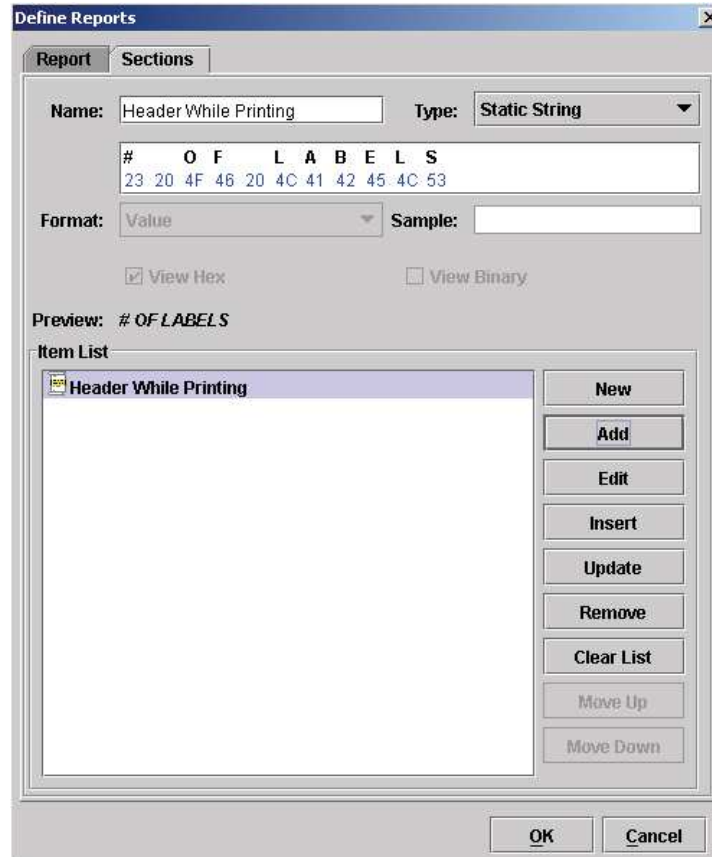

Figure 212 Defining a Sections Name
4. Click **Add**. The Header section is added to the Item List pane (Figure 212).